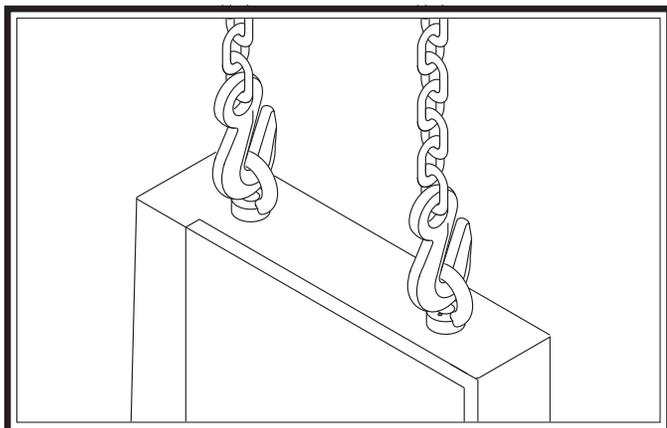

Figure 15. Lifting locations.
3. Install eye bolts. Make sure they are threaded all the way in, then place lifting hooks through eye bolts (see **Figure 15**) and lift bandsaw slowly with forklift just enough to clear pallet.